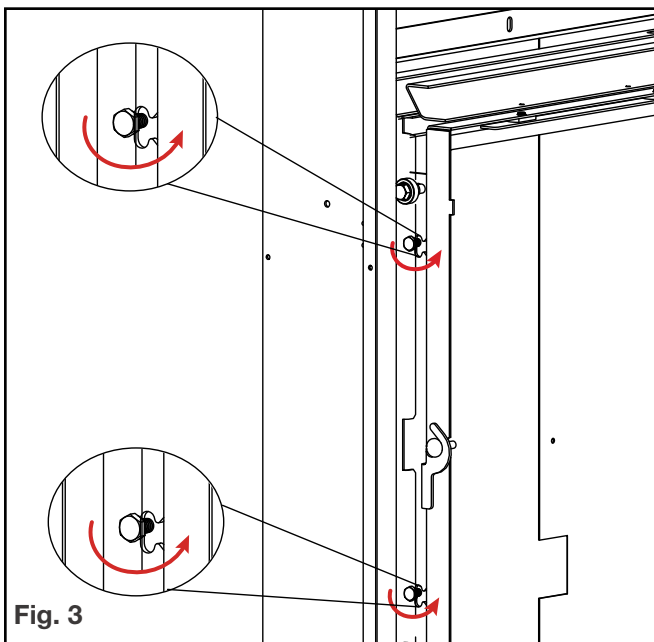

Fig. 3
4. Loosen the two screws on the left side of the door frame that attach it to the V-rail bracket (**Fig. 3**). The screws do not have to be fully taken out, just loosened enough to slide the door out.
6. Center and apply the gasket to the edge of the glass. Ensure the gasket is a continuous loop around the perimeter of the replacement glass. **(FIG.3)**